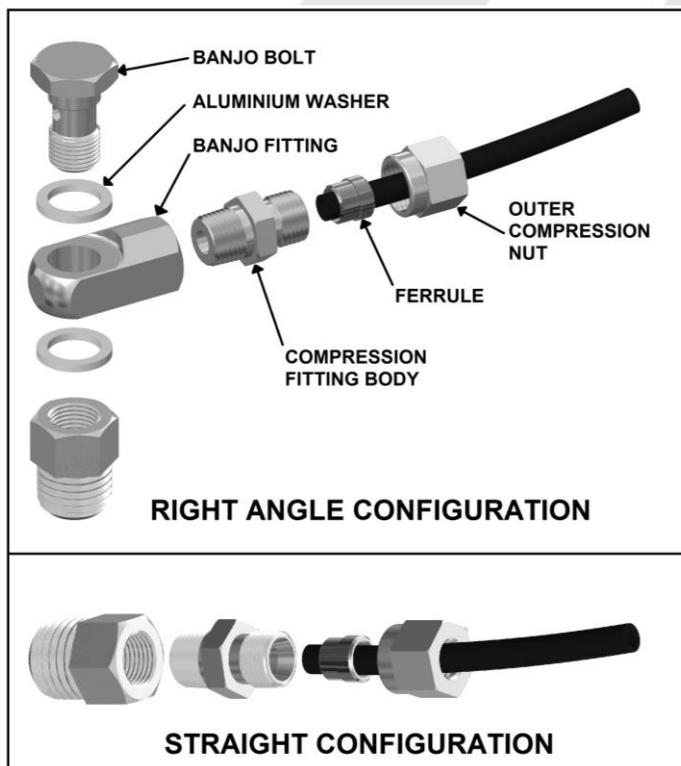

Figure 15.
5.1.1 Connection to an ARB Air Compressor (Fig.15)
NOTE : The solenoid is marked with two #1 ports. If space is tight, a second solenoid can be "daisy-chained" off the first one by removing the plug from the redundant #1 port and screwing the nipple from the second solenoid into it (Fig. 15.).
- Assemble an aluminium washer onto the banjo bolt and insert through the banjo fitting. Assemble second aluminium washer and tighten into bulkhead fitting using a 14mm [9/16"] spanner. (Fig.15.)
- Insert the outer compression nut and ferrule over the air line. Ferrule should be orientated as per Fig.15.
NOTE : When right angle routing of the tube is not required, screw the compression fitting body straight into the bulkhead fitting body (Fig.15.).